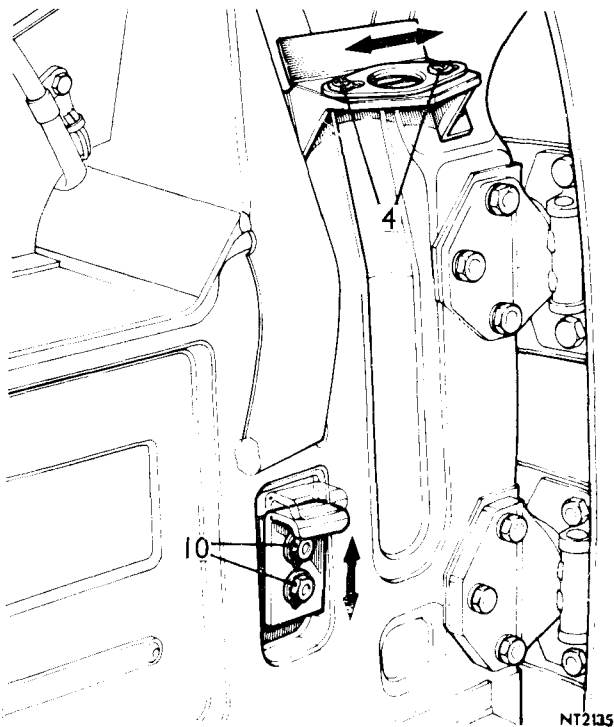

Fig. 84 Bonnet catch and buffer plate
4. Slacken four screws (Fig. 84) and move the stop plates forwards or rearwards to give a correct location for the buffers.
10. Slacken four bolts (Fig. 84) and re-position the bonnet catch plates to correctly locate with the bonnet catches.